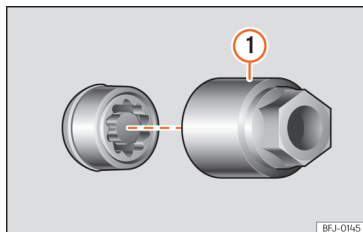

Fig. 251 Anti-theft wheel bolt with cap and adapter.
- Insert the special adapter >>> Fig. 251 ① (vehicle tools >>> page 316) onto the anti-theft wheel bolt and push it on as far as it will go.